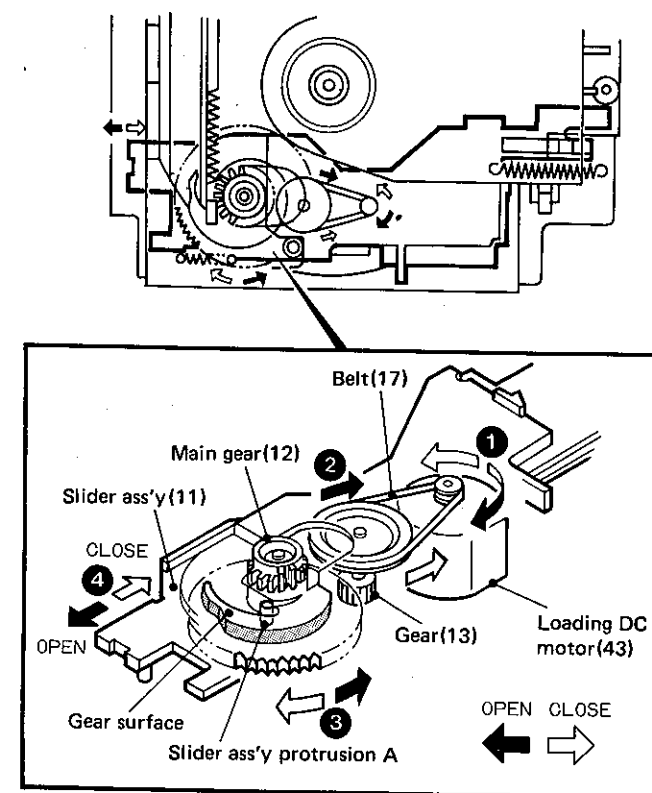
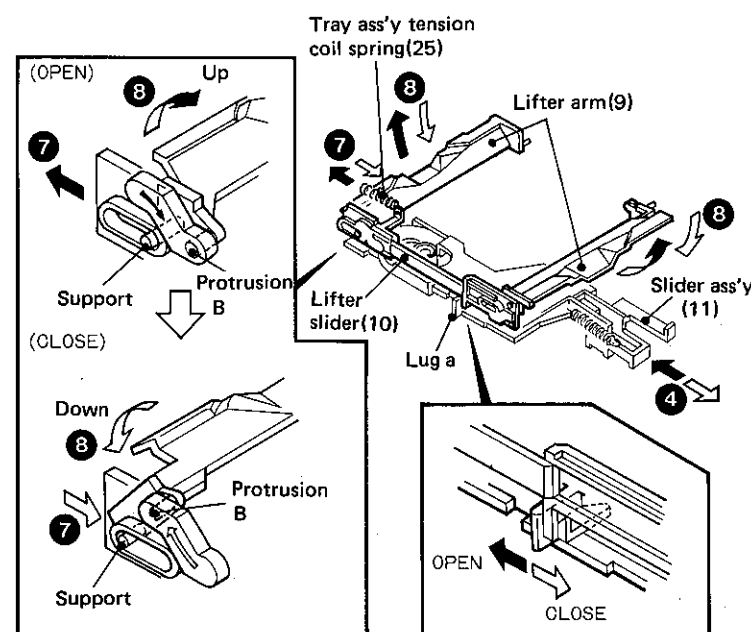

Fig. 2 Loading motor rotation transmission
Fig. 5 Lifter arm up/down operation
As shown in Fig. 2, loading DC motor (43) rotates in the direction of the black arrow ① and transfers the rotation of the black arrow ② to the gear (13) via the belt (17), and also rotates the main gear (12) in the direction of the black arrow ③ with the lower gear section of the gear (13). The main gear (12) contains the cam on its upper surface. Along with the surface of the cam, protrusion A located in the lower side of the slider ass'y (11) is shifted and the slider ass'y (11) begins to move in the direction of the black arrow ④.
Fig. 5 shows the OPEN operation until the disc is lifted from the turntable and placed on the disc tray so that the disc is removed from the player. These operations are performed almost at the same time as the up operations of the clamper arm(8) when the tray is opened as described in Fig. 2 to 4 above.